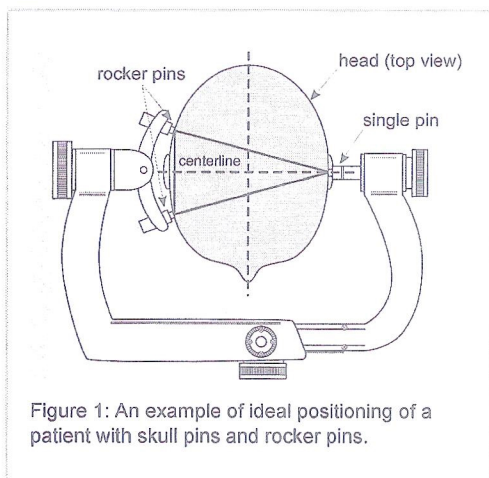

Figure 1: An example of ideal positioning of a patient with skull pins and rocker pins.
- When possible, utilize the following fixation techniques as shown in Figure 1, which is a graphic illustration of information commonly found in manufacturers' instructions for use.